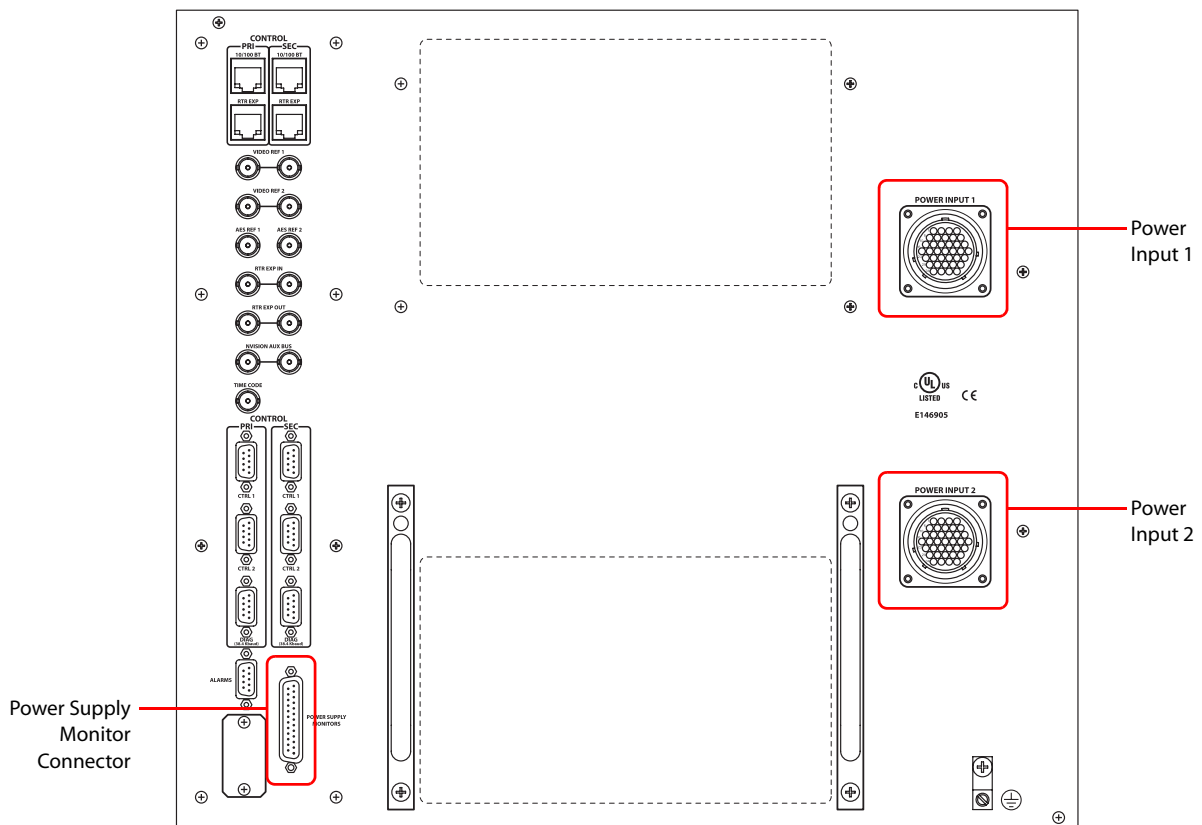

Figure 2-38. NV8576 Power Supply Monitor and Power Supply Connections on Router
- 3 Facing the rear of the **router**, connect the other end of the power cable to 'Power Input 1', as shown in Figure 2-38.